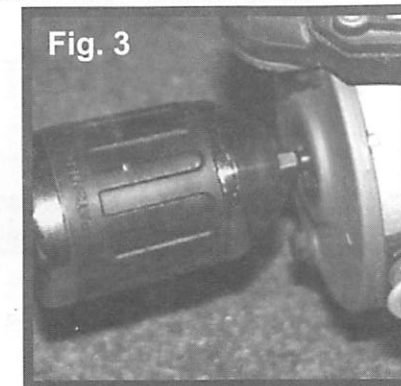

Fig. 3
3. Insert hex bit into coupler found under protective label, Fig. 3.